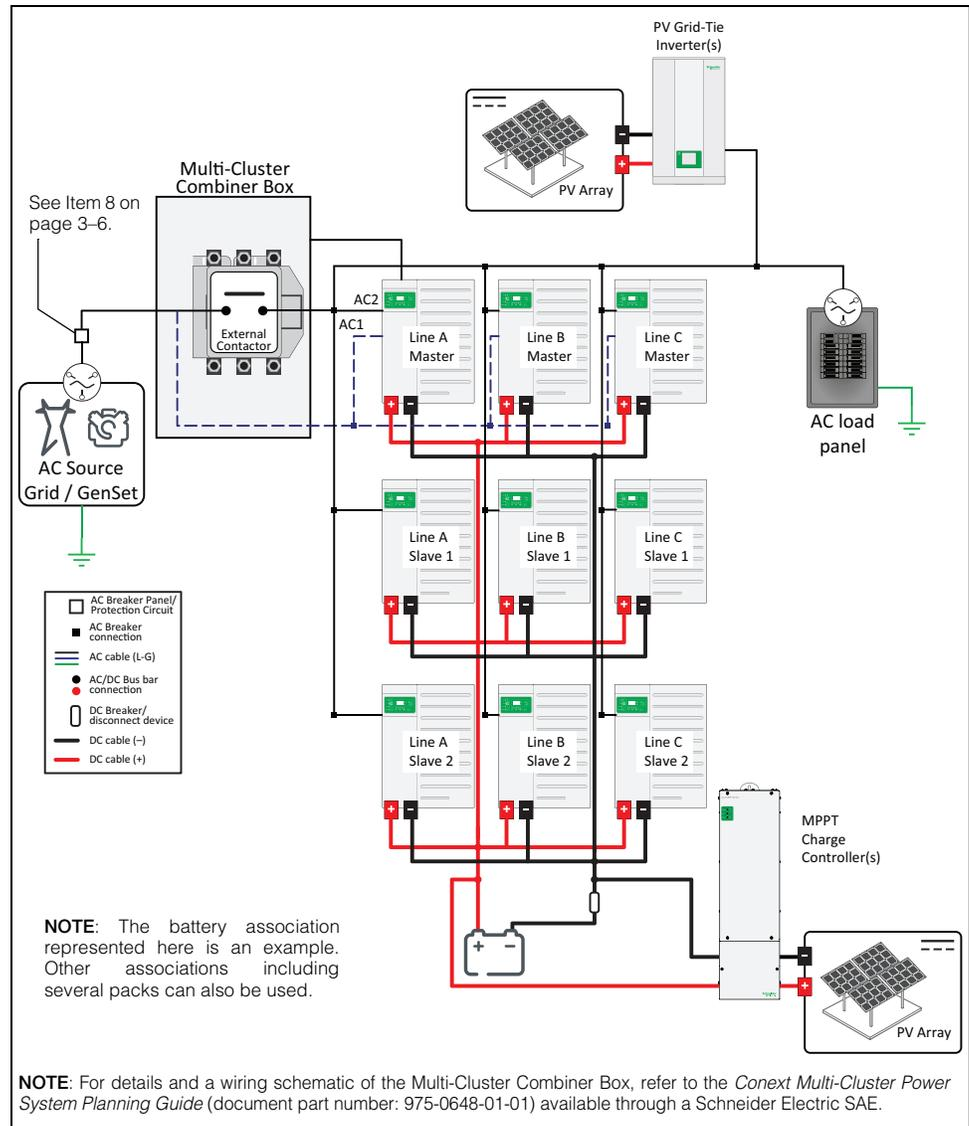
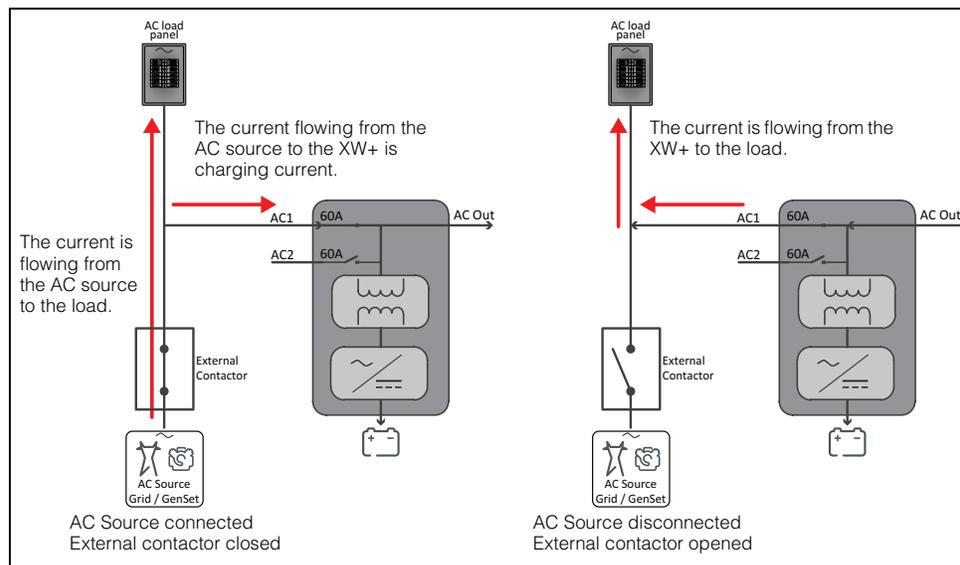
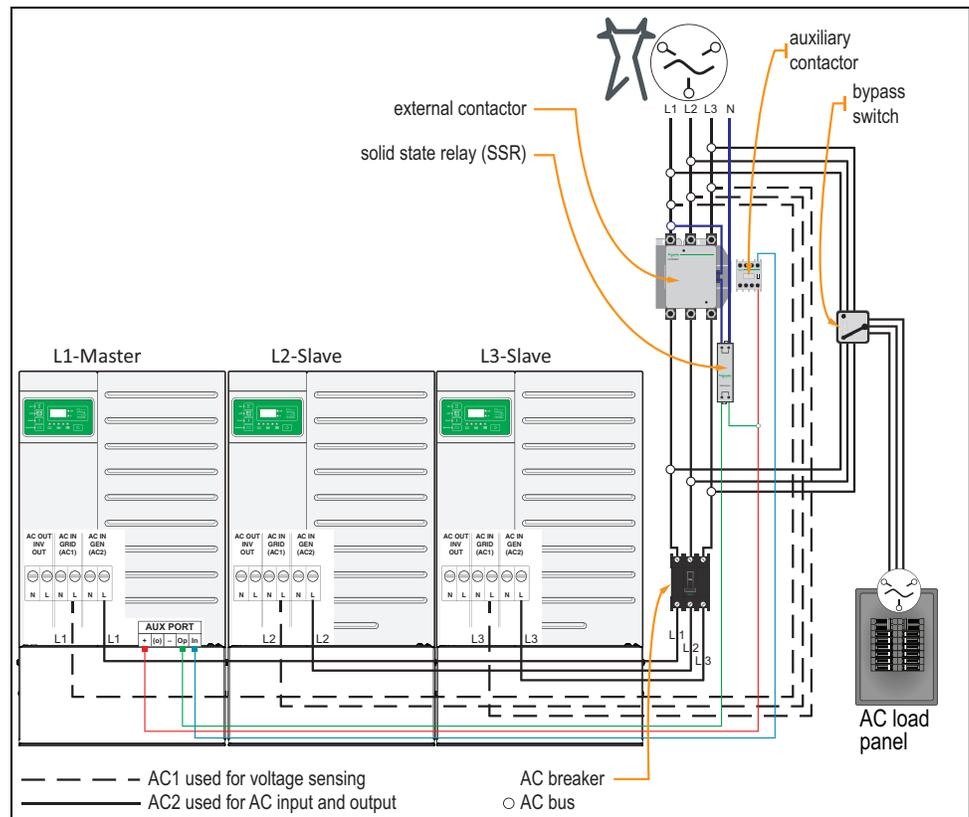

Figure 2-10 Three-phase Multi-Cluster System with External Contactor
Figure 2-11 Parallel Connection of XW+ to AC line
Figure 2-12 Integration of External Contactor in 3Ph Multi-Cluster System
For applications where more than 41.4kVA (IEC) or 17.2kVA (UL) of power is needed, it is possible to increase the system power rating by connecting the XW+ in parallel to the AC source, and hence not being subject to the 60A/phase limitation any more. This is because when the loads are powered from the grid, no current is circulating through the XW+ as shown in Figure 2-11. In addition, an external contactor is required to connect/disconnect the Multi-Unit Power System from the AC source. In order to ensure proper AC voltage synchronization between XW+ and AC source, this external contactor is driven by the XW+ Phase 1 Master. Electrical configuration of this mode of operation is represented in Figure 2-10. A more detailed schematic of the wiring is given in Figure 2-12 on page 2-21.
At any time before the XW+ inverters close the AC contactor, they must first qualify the incoming AC by measuring the AC source voltage. This measurement is made through the inverter's **AC1** input terminal. After measurement, when the Phase 1 Master XW+ determines that the AC is good, it signals the solid state relay (SSR) to close the contactor (see Figure 2-12).